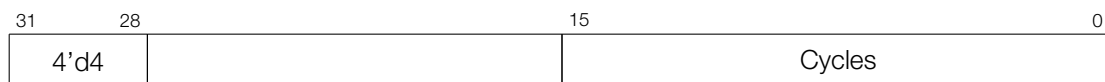

Figure 30-14. Instruction Type – WAIT
**Operand**    **Description** - see Figure 30-14